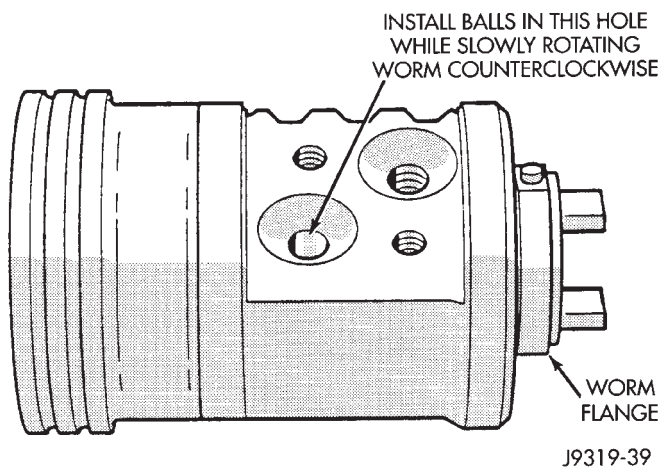

Fig. 24 Installing Balls in Rack Piston
(1) Check for scores, nicks or burrs on the rack piston finished surface. Slight wear is normal on the worm gear surfaces.
(2) Install O-ring and teflon ring on the rack piston.
(3) Install worm shaft in the rack piston and align worm shaft spiral groove with rack piston ball guide hole (Fig. 24).
(4) Lubricate and install rack piston balls through return guide hole while turning worm shaft COUNTERCLOCKWISE (Fig. 24).